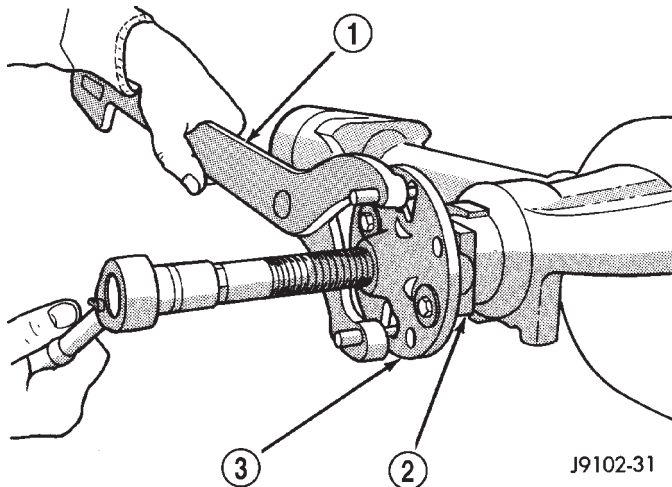

Fig. 10 Pinion Yoke Removal
- (1) Raise and support the vehicle.
- (2) Remove wheel and tire assemblies.
- (3) Remove brake rotors and calipers. Refer to Group 5, Brakes, for proper procedures.
- (4) Mark the propeller shaft and pinion yoke for installation reference.
- (5) Remove the propeller shaft from the yoke.
- (6) Rotate the pinion gear three or four times.
- (7) Measure the amount of torque necessary to rotate the pinion gear with a (in. lbs.) dial-type torque wrench. Record the torque reading for installation reference.
- (8) Using Holder 6958 to hold the pinion yoke, remove the pinion nut and washer.
- (9) Use Remover C-452 and Wrench C-3281 to remove the pinion yoke (Fig. 10).